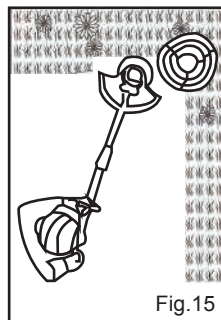

Fig.15
- Pay special attention when performing the work close to trees and bushes. The trimming head could damage sensitive bark, and damage fence posts (Fig. 15).